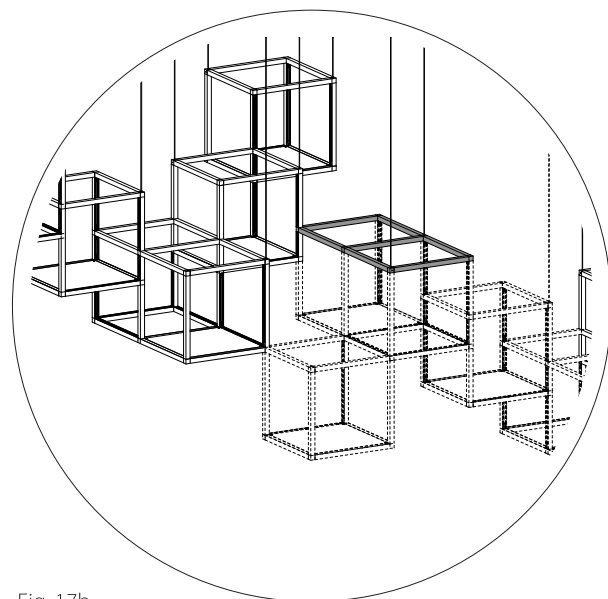

Fig. 17b
- 26c. Section as part of whole assembly shown in Fig. 17b.